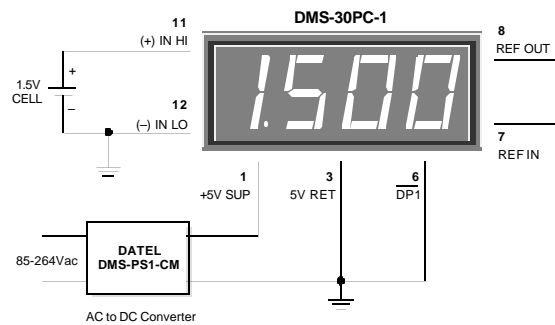

Figure 5. Floating Input Measurements
- 4. Floating Signal Source Measurements:** Floating signals can be measured using the circuits shown in Figures 5 and 6.